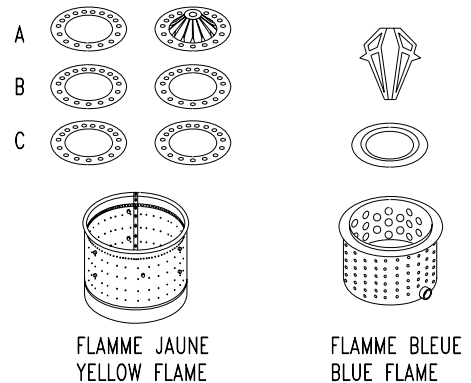

Figure 13: RINGS POSITION
- See that the (3) rings are in the right position. Each of them are stamped A, B and C (figure 13).